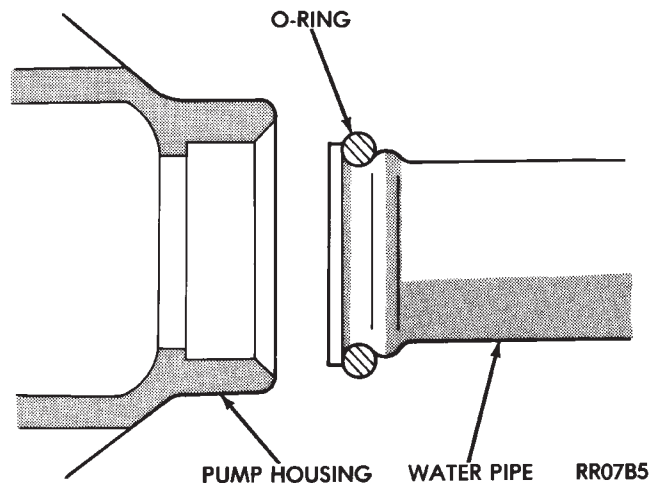

Fig. 34 Water Pipe O-Ring
(1) Clean all gasket and O-ring surfaces on pump and water pipe inlet tube.
(2) Install new O-ring on water inlet pipe (Fig. 34). Wet the O-ring with water to facilitate assembly.